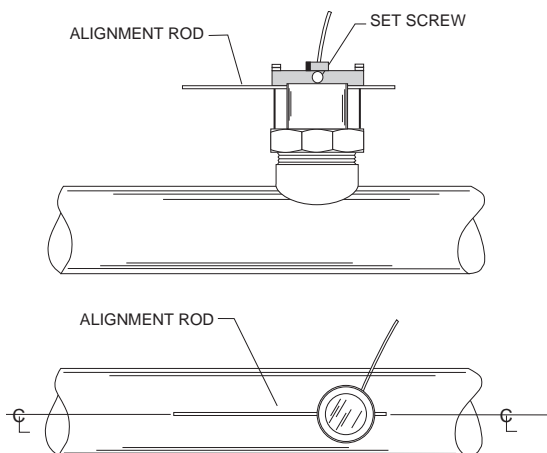

Figure 2
- 1) Loosen positioning collar set screws with a 3/32 inch Allen wrench. Place the alignment rod through the sight holes in the flow sensor. Refer to Figure 2. Using the alignment rod as a guide, align the flow sensor so that the flow label arrow matches pipe flow direction and so that the alignment rod is exactly parallel to the pipe. This procedure aligns the impeller directly into the fluid flow.